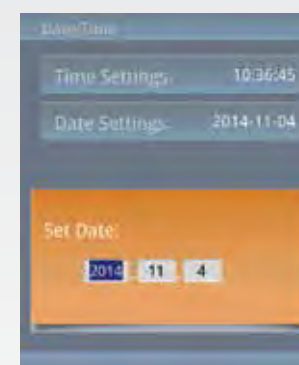

Fig 7.20-1
- d) From the Date/Time menu, use the ▲ or ▼ keys to highlight the Date Settings menu option. Touch **OK** to access the “Set Date” screen. (*Fig 7.20-1*)